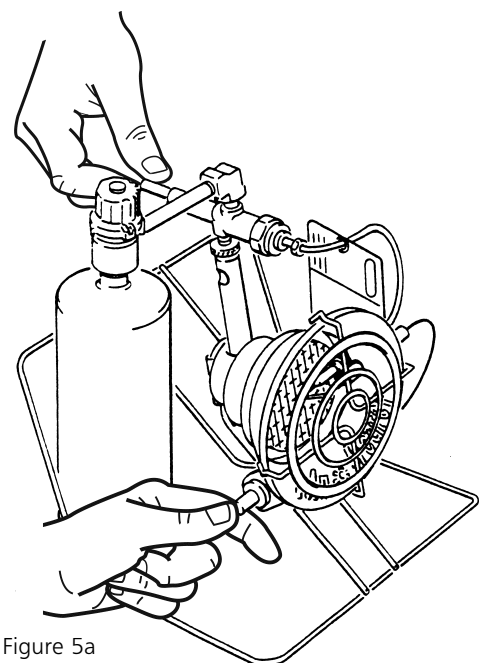

Figure 5a
- E. To light MH12CS, press "Sparklite" igniter Safety Shutoff Valve button at the same time. (See Fig. 5a) Prior to pressing "Sparklite" igniter. After the heater is lit, continue to hold valve button in for 30 seconds, then release the button slowly.